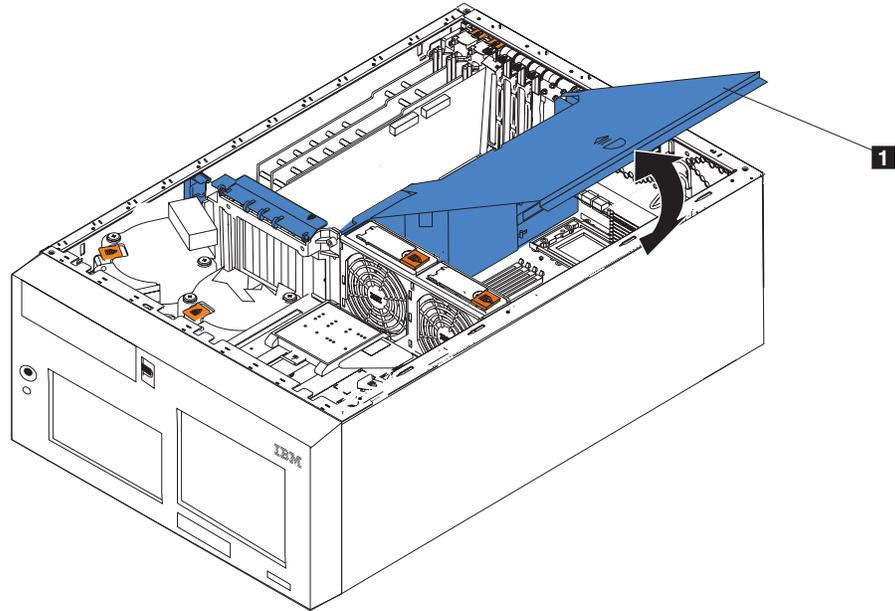

Figure 45. Opening the air-baffle assembly cover
4. Open the cover on the air-baffle assembly as shown in Figure 45.
3. Open the cover on the air-baffle assembly. See Figure 45 on page 107 for an illustration.
3. Open the cover on the air-baffle assembly. (see Figure 45 on page 107).